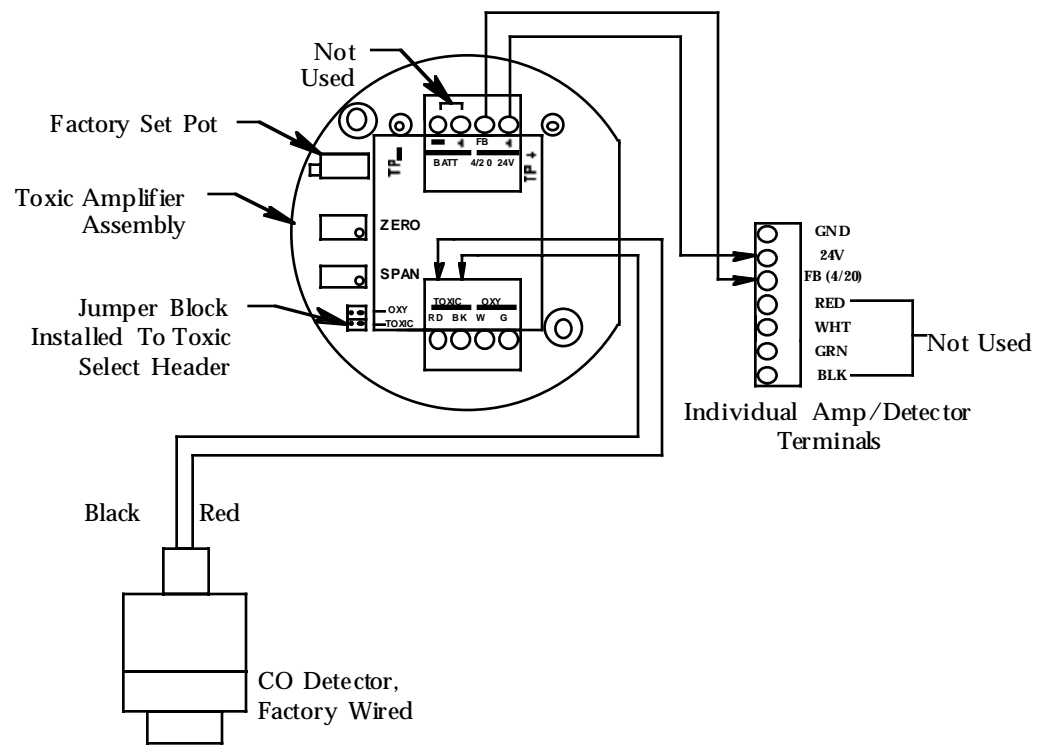

Figure 3: Wiring the CO Transmitter to the Pioneer Gas Monitor
3. Verify that the detector leads are wired to the amplifier's detector terminal strip. If necessary, connect the detector leads to the detector terminal strip as shown in Figure 3.
4. Verify that the jumper block is installed over the TOXIC selector of the amplifier type selector as shown in Figure 3.
6. Connect the two wires to the interconnect terminal strip as follows (see Figure 3.)
9. Connect the wires to the detector terminal strip of the applicable analyzer card as shown in Figure 3. The detector terminal strip is the 7-point terminal strip (terminals 1 through 7) on the card.